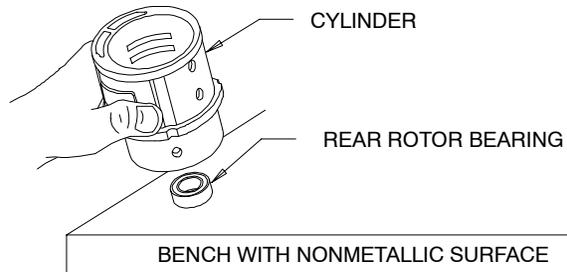

Figure 3
5. To remove the Rear Rotor Bearing, hold the Cylinder with the Rear Rotor Bearing down and tap the Cylinder on a flat, nonmetallic surface such as a work bench. This will loosen the Rear Rotor Bearing so that it will drop out of the Cylinder. Refer to Figure 3.
6. Working from the rear of the Housing, push out the Motor Gasket (7).